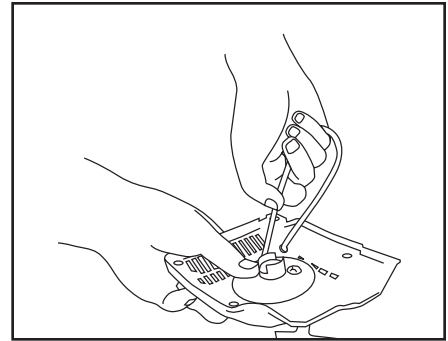

Figure 4
- Lift the starter cord up into the notch on the starter pulley (Figure 4) and wind the pulley clockwise 5 full turns. Remove the cord from the pulley notch while pinching the pulley. Release the pulley slowly allowing it to wind the rope counterclockwise onto the pulley.